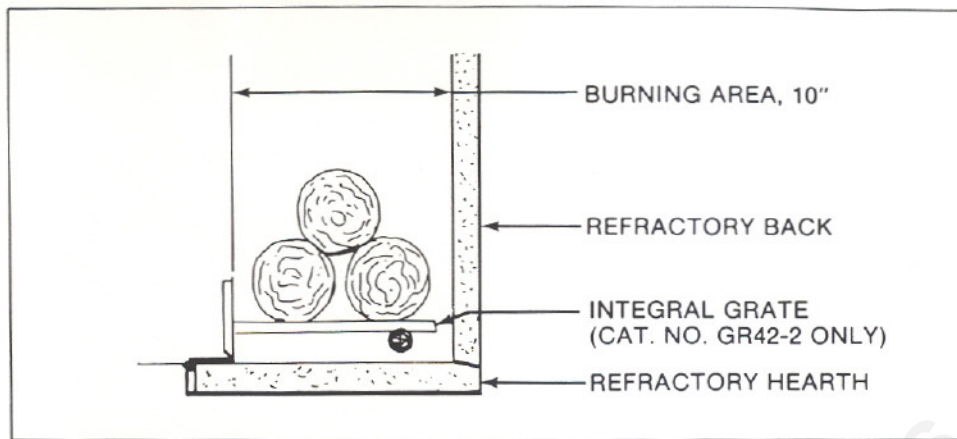

Figure 2
E. GRATE. The factory installed Integral Grate must be used to hold the logs from falling out of an open fireplace and to allow air to pass between the burning logs. It is important to keep the fire off the hearth and to allow the ashes to collect beneath the fire, thereby forming a layer of additional heat protection. See Figure 2. Use only Catalog Number GR42-2 Integral Grate for replacement.
- H. **SETTING THE FIRE.** Check the flue damper to be sure it is fully open. Place crumpled or twisted paper under the Grate. Loosely arrange kindling or small pieces of wood to form a layer above the paper. Place three logs in a rough pyramid as shown in Figure 2, being sure to allow free air space between the logs. Small sticks of wood may be used to separate the logs. **NOTE:** When heated the first time, the temperature of the fireplace must be raised gradually, to prevent moisture within the refractory from causing cracks, and to allow the binders in the insulation to dissipate.